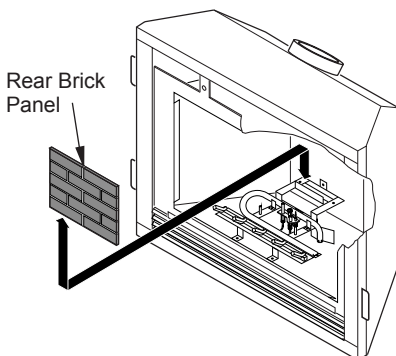

Figure 43 - Installing Rear Brick Panel
5. Install rear brick panel first. Rest bottom edge of panel on back edge of grate (see Figure 43).
6. Install left side brick panel by sliding it between grate and side of firebox (see Figure 43).